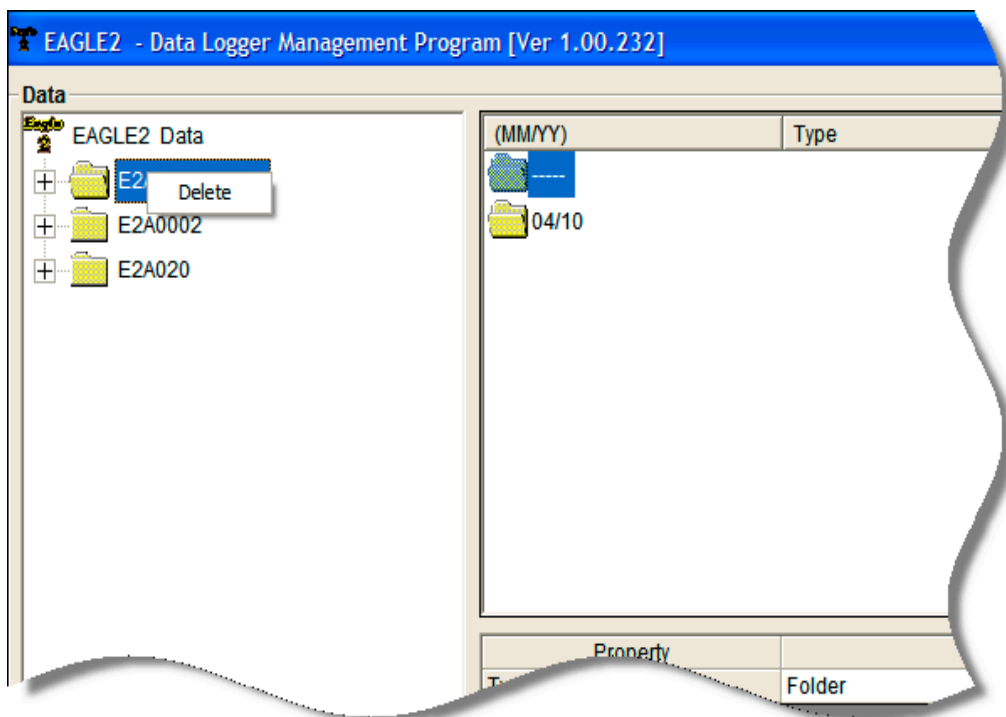

Figure 37: Delete Box
6. When the password has been entered and **Continue** clicked, the Delete Data Window (if a folder is selected for deletion) or Delete Sample Window (if a file is selected for deletion) will appear asking you to confirm that you want to delete the selected folder or file. In the example below, the Delete Data Window appears because the data folder shown in Figure 37 has been selected for deletion.